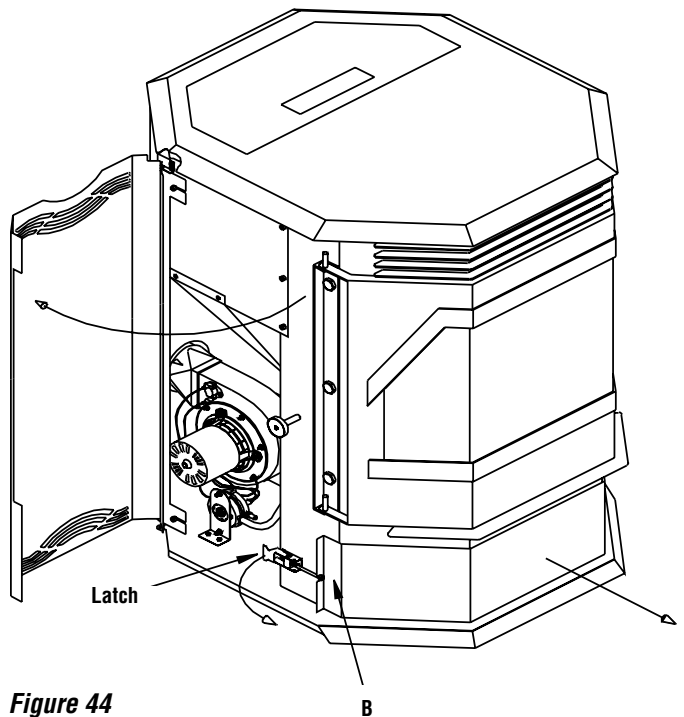

Figure 44
**CAUTION:** Do not remove the ash drawer when the stove is hot. To remove the ash drawer, swing open the left and right side doors. Rotate the lever on latch B (see *Figure 44*) out from the stove to release the ash drawer. Do the same with the latch on the right side of the stove. Pull the ash drawer forward and away from the stove.
6. Remove the ash drawer (see **Figures 44**) to locate the lower left and right tear drop shaped flue passageways (see D in **Figures 46A and 46B**).